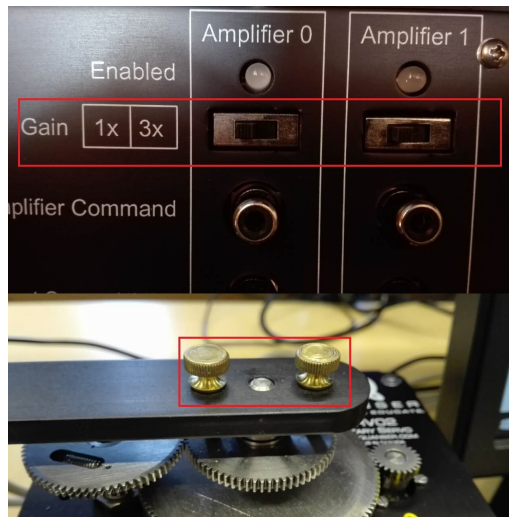

Figure 6: Voltage Amplifier Gain.
- Before turning on the voltage amplifier device, ensure the voltage gains of both amplifier ports are set to $1\times$ (Figure 6), or the pendulum device will be damaged!
- After long time running, the 6 thumb screws(Figure 6) on the pendulum might be loose and have some bad impact, ensure the thumb screws are properly adjusted to be tense.